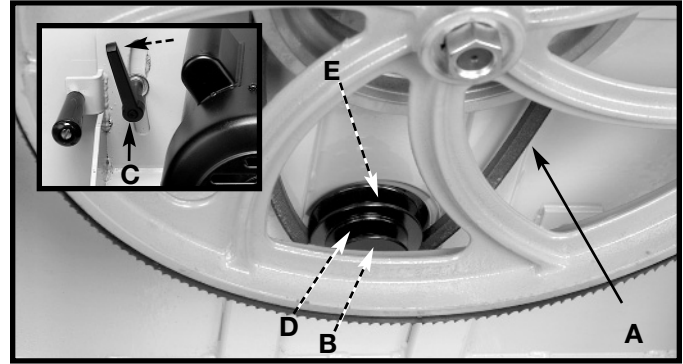

Fig. 20A
2. Locate and loosen motor release handle (C) Fig. 20A inset by turning it counter-clockwise.
3. Lift up motor assembly and move belt (A) to desired groove on motor pulley (B). Move belt to outer groove (D) for 2300 SFPM, or to inner groove (E) for 3250 SFPM.
4. Push down on motor assembly and then turn motor release handle (C) clockwise to tighten belt.